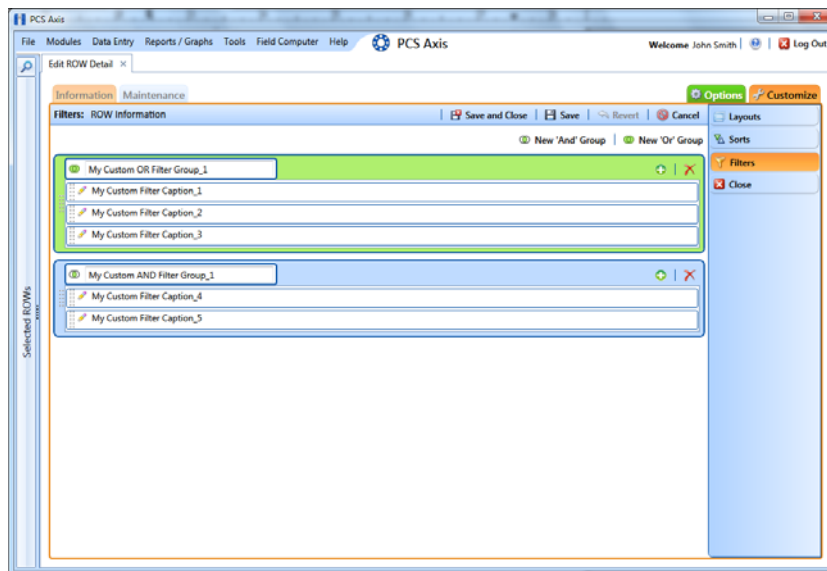

Figure 3-32. Filters
- 4 Click the **Customize** tab  then the **Filters** button  to open the *Filters* page (Figure 3-32).